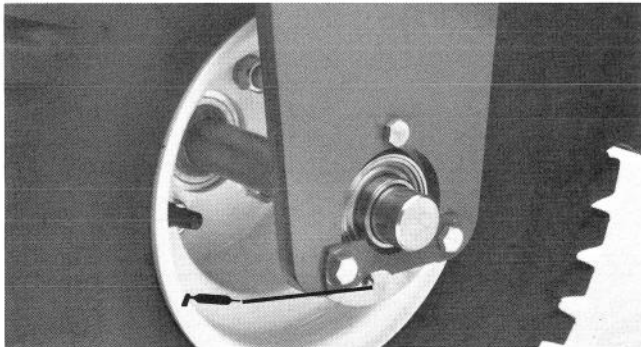
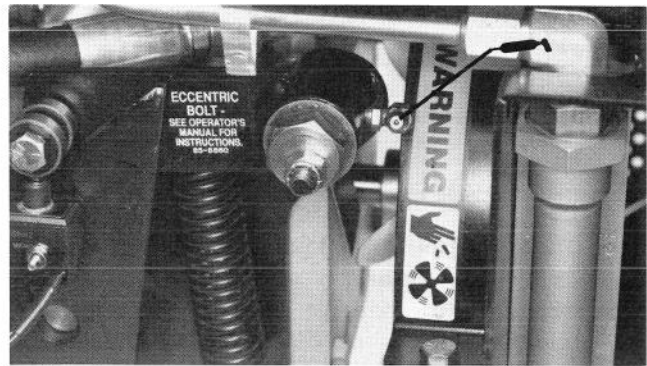
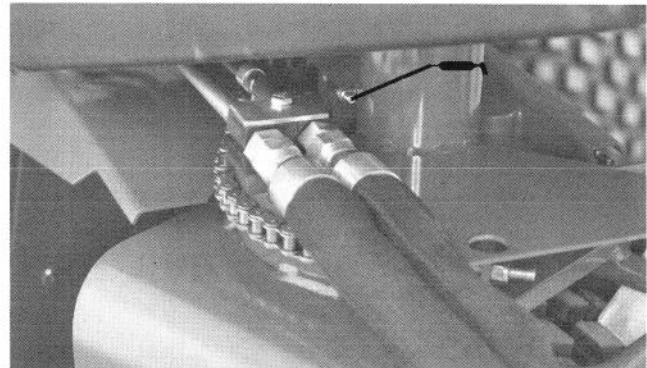

Figure 18
Figure 19
Figure 20
The bearings and bushings that must be lubricated are: front wheel bearing (Fig. 18), Traction Control Linkage (Fig. 19) and steering shaft (Fig. 20).
Note: To gain access to grease fitting on traction control linkage (Fig. 19), remove (3) screws securing side panel to left side of machine and remove panel.
Note: To gain access to grease fitting on steering shaft (Fig. 20), remove (4) screws and spacers securing fuel tank to top of machine and raise front of tank.